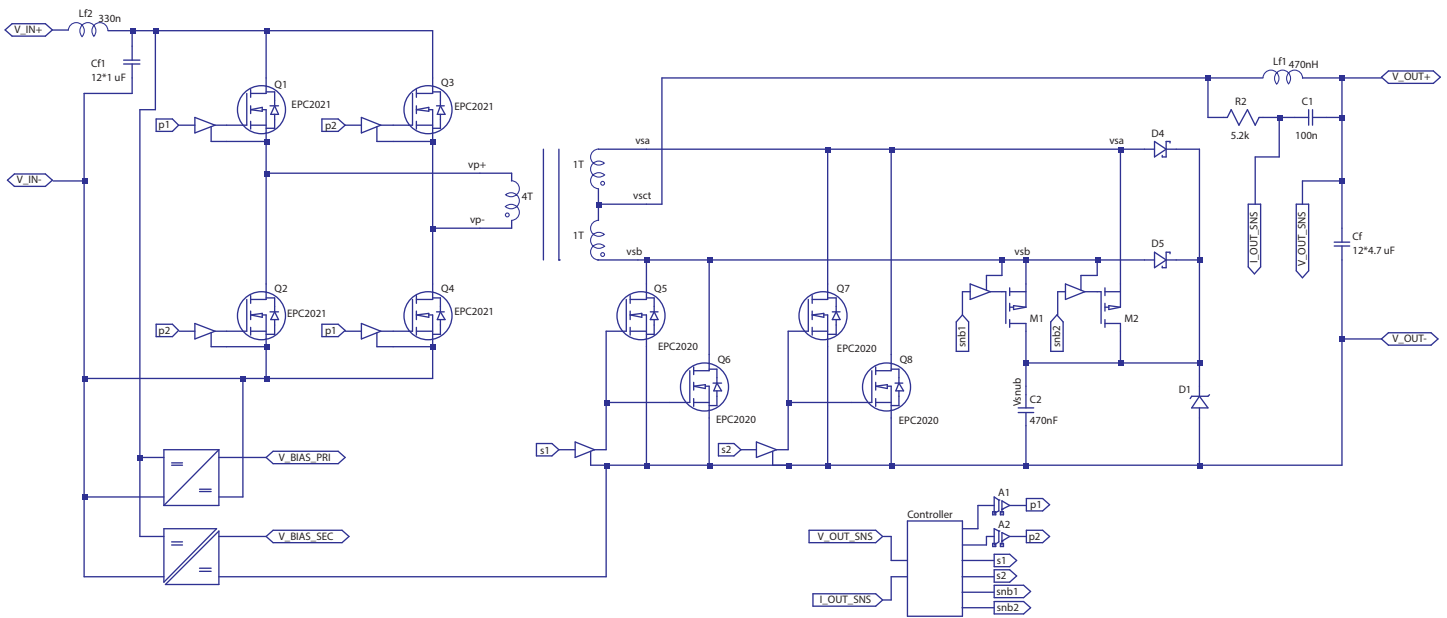

Figure 1: Block Diagram of EPC9115 Demonstration Board
A complete block diagram of the circuit is given in Figure 1. The converter uses a full-bridge (FB) primary power stage, a 4:1 transformer, and a center-tapped (CT) output stage with active reset snubbers. Control is provided by a Microchip dsPIC® controller, and basic voltage mode control is implemented. For more information on the EPC2020 and EPC2021 eGaN FETs, as well as the gate drivers and controller, please refer to the datasheets available from EPC at www.epc-co.com, www.ti.com, and www.microchip.com. These datasheets, should be read in conjunction with this quick start guide.